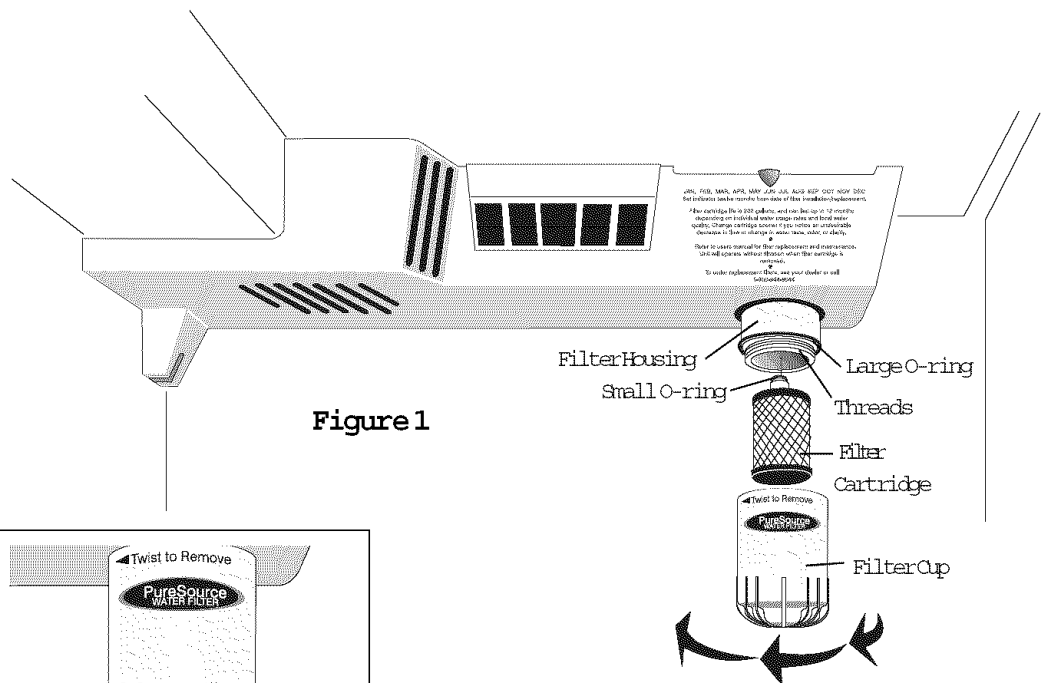
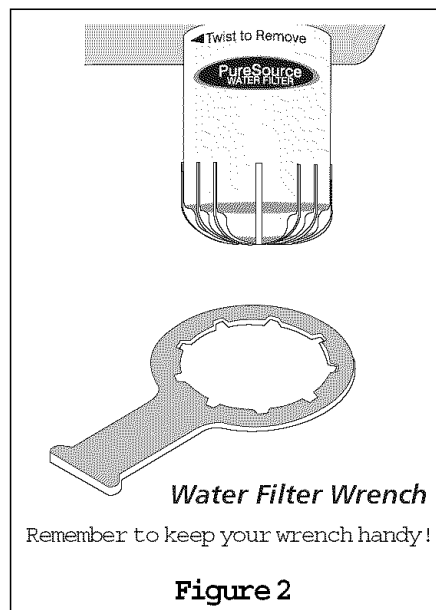

Figure 1
Figure 2
This ice and water filter system filters water to your icemaker and water dispenser. It is located in the upper right back corner of the fresh food compartment (see Figure 1 on the following page).
Water supply does not need to be turned off, however do not use ice and water dispenser while installing filter. Refer to Figure 1 as you complete these instructions.
3. Unscrew filter cup, counterclockwise (Figure 1). If you have trouble unscrewing cup, use the cup removal wrench included in parts bag (Figure 2).
Refer to Figure 1 as needed.
2. Hold filter cup firmly, and unscrew counter clockwise (Figure 1). Use cup removal wrench if necessary (Figure 2). (Some water could leak out as you remove cup. This is normal.) Filter cartridge will come down with cup. If cartridge remains in housing, pull down gently, while twisting filter back and forth.